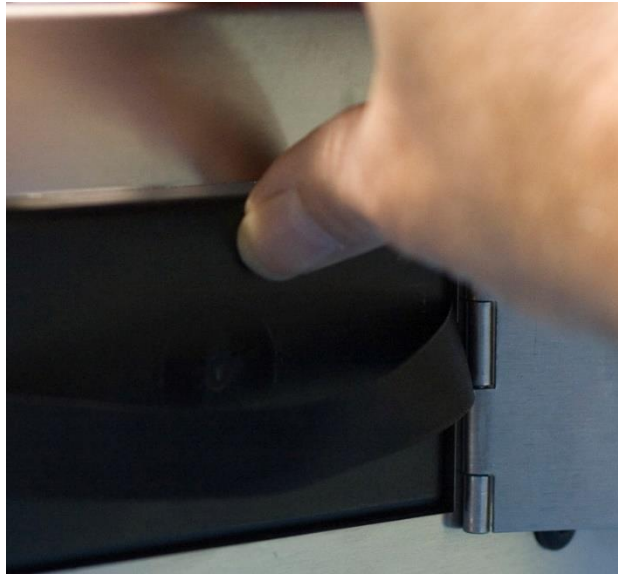

Figure 3-4 Battery Engaging Connector
3. Push the battery all the way into the compartment until it snaps into place. See figure 3-4. Close the door and tighten the screw lock by turning it clockwise.